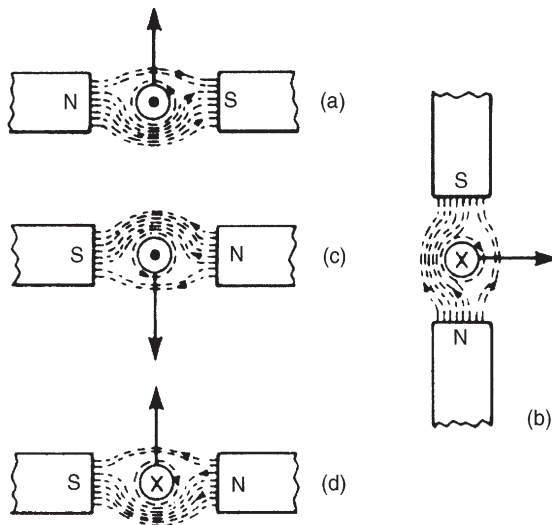

Figure 8.16
- (a) The direction of the main magnetic field is from north to south, i.e. left to right. The current is flowing towards the viewer, and using the screw rule, the direction of the field is anticlockwise. Hence either by Fleming's left-hand rule, or by sketching the interacting magnetic field as shown in Fig. 8.16(a), the direction of the force on the conductor is seen to be upward.
- (b) Using a similar method to part (a) it is seen that the force on the conductor is to the right – see Fig. 8.16(b).
- (c) Using Fleming's left-hand rule, or by sketching as in Fig. 8.16(c), it is seen that the current is towards the viewer, i.e. out of the paper.
- (d) Similar to part (c), the polarity of the magnetic system is as shown in Fig. 8.16(d).